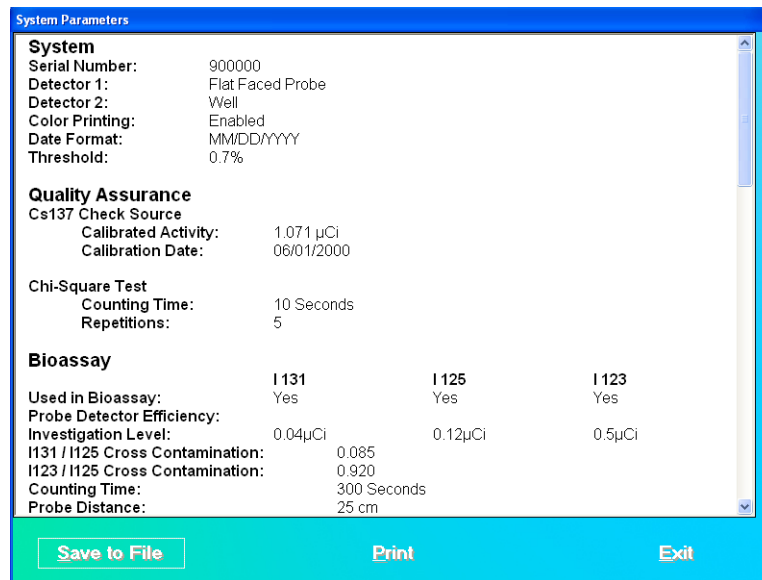

Figure 5-25
1. Click the **View System Parameters** button or press *Alt+P* on Figure 5-1 Quality Assurance Main Screen. The screen appears as shown in Figure 5-25. You may scroll down to see all of the parameters. The system details appear at the top followed by the Quality Assurance parameters. Below that, setup values are listed for each type of procedure.